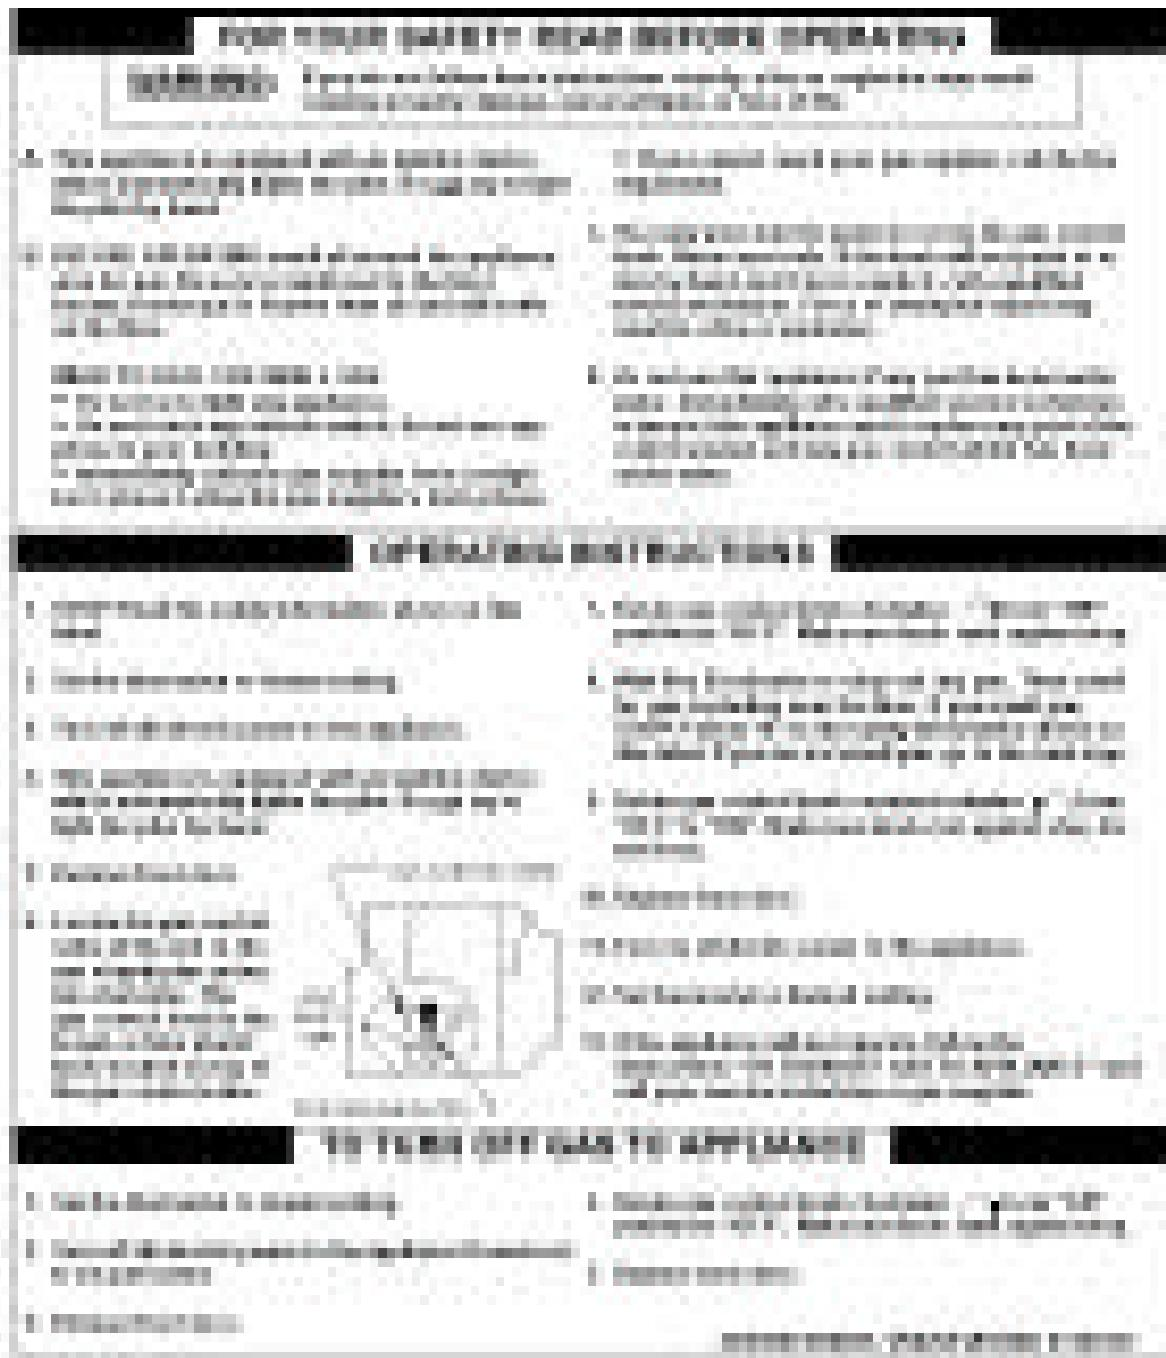

Figure 17: Operating Instructions
E. Follow Operating Instructions to place boiler in operation. See Figure 17.
A. General. Inspection and service should be conducted annually. Turn off electrical power and gas supply while conducting service or maintenance. Follow instructions TO TURN OFF GAS TO APPLIANCE. See Figure 17.